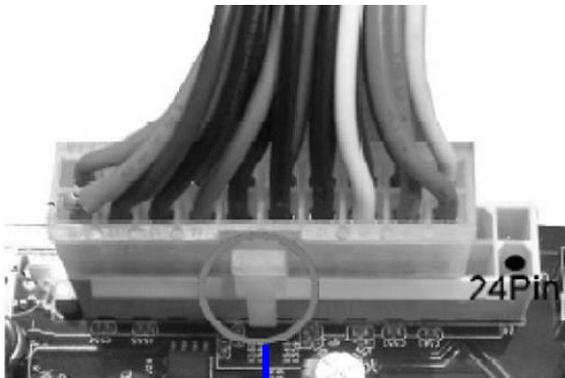

Figure 1: 20-pin power plug
- ** If you are using a 20-pin power plug, please refer to Figure1 for power supply connection. Power plug form power supply and power connectors from motherboard both adopt key design to avoid mistake installation. You can insert the power plug into the connector with ease only in the right direction. If the direction is wrong it is hard to fit in and if you make the connection by force if is possible.